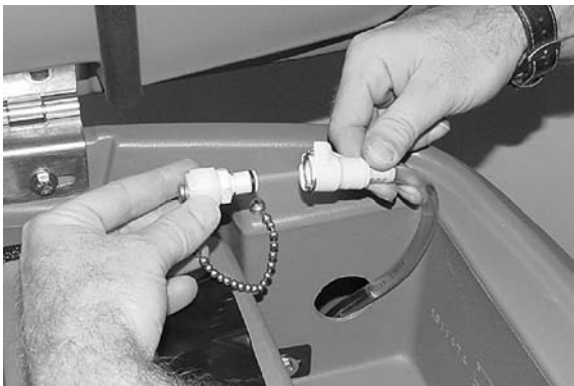

FIG. 53
- FaST Model: Connect the FaST-PAK supply hose to the storage plug when not in use (Figure 53). Remove any dried concentrate from the hose connector by soaking it in warm water.